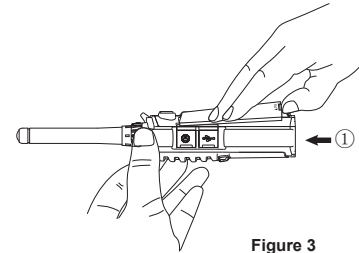

Figure 3
Make sure the radio is turned off. Hold the top of radio body, push the battery button with finger along with the direction shown as ①, lift the battery cover, and remove it from behind. (See Figure 3)